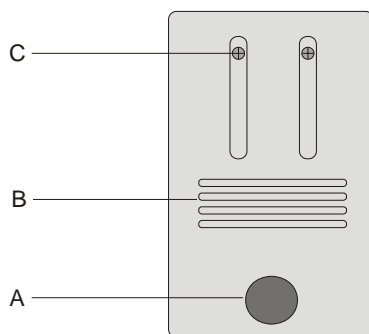

Fig. 1 Lamp socket cover: A - knurled screw, B - ventilation slots, C - securing screws of lamp-holder
- Loosen screw C of the lamp socket and push it outwards so that it is in the position shown in Fig.1.